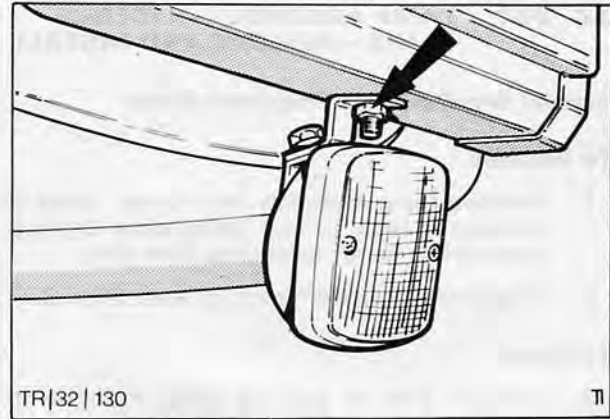

Fig. 30. Lamp securing nut
3. Remove mounting nut, Fig. 30 and serrated washer and remove lamp from vehicle.